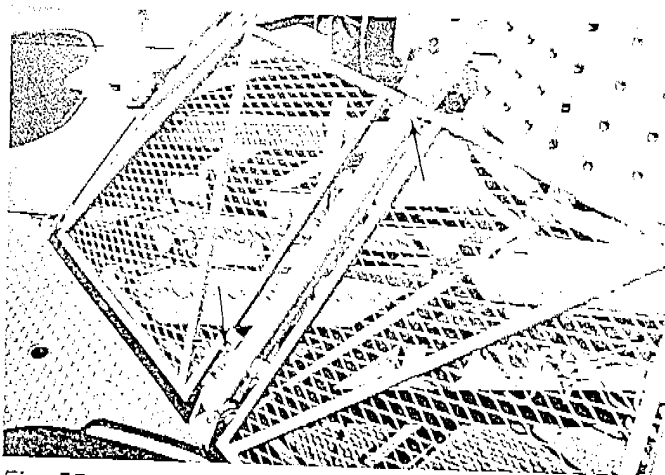

Fig. 55
- The fence sections are secured to the platform support braces. Position the fence sections with the narrow side up and the wide side along the edge of the rotating platform deck. Slip the pins at the sides of the fence frame into the ears on the braces. *Snap Key in Place.* (Fig. 55)